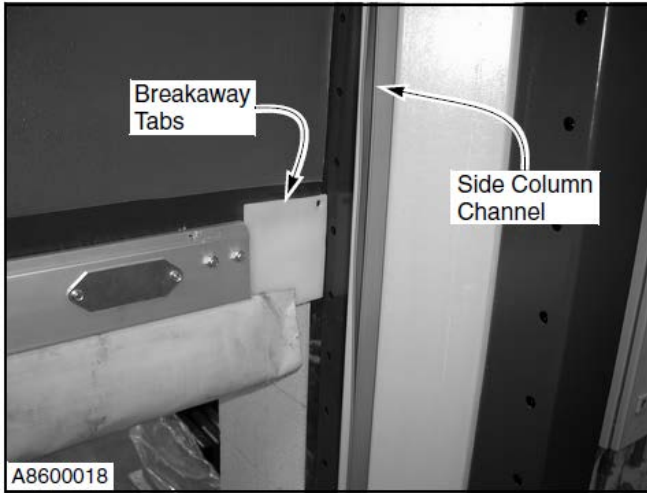

Figure 31
1. The breakaway tabs have popped out of the side column's channel due to impact. (See Figure 31.)